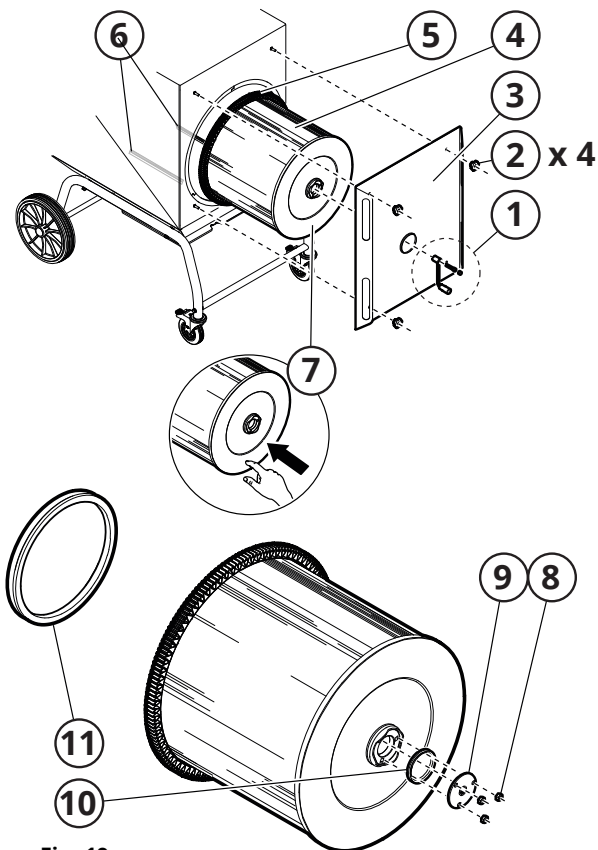
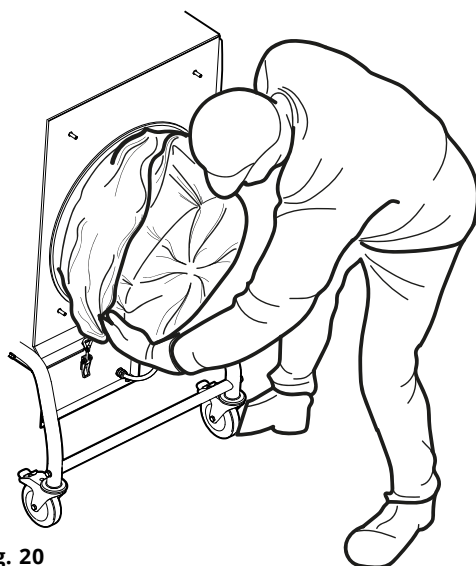

Fig. 19
Fig. 20
1. Unscrew and detach the crank, see part 1, Fig. 19.
2. Unscrew (2) and remove the filter hatch (3).
3. Remove the nuts (8), mounting plate (9), and small sealing strip (10). Set aside for refitting to the new cartridge filter.
4. Drape Filter Bag CMF PCW3 over the filter cartridge, see Fig. 20. Make sure the filter bag does not get stuck on the brushes under the filter cartridge.
5. Remove the filter cartridge (4, Fig. 19) and filter bag from the assembly. Set down on the floor with filter end (7) downwards.
6. Remove the large sealing strip (11) and set aside for refitting to the new cartridge filter.